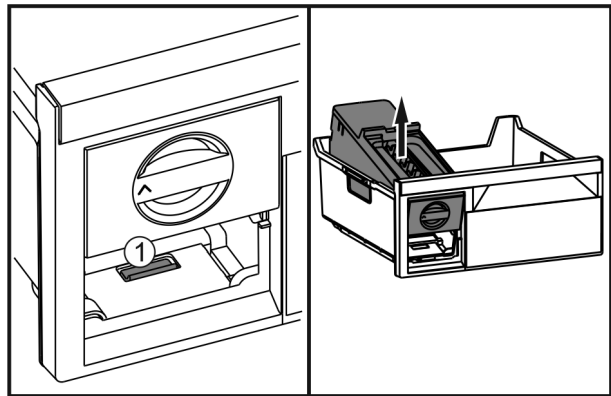

Fig. 56
- ▶ Press the lug Fig. 56 (1), lift up the EasyTwist-Ice at the back and take it out of the freezer drawer.